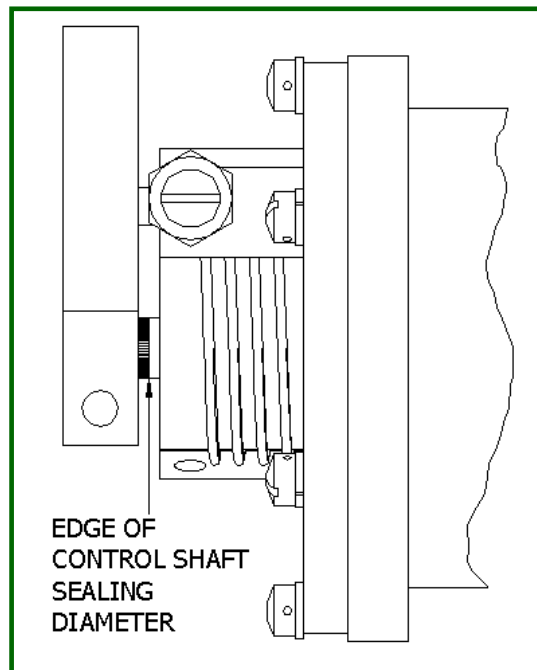

Figure 13
5.6.3 Repositioning of Lever on Control Shaft (see Figure 13)
Following the adjustment processes, it is essential that the speeder spring adjusting shaft is not turned in beyond the governor cover housing, exposing the O-ring. If this should happen an oil leak will occur. See Figure 13 for detailed information!